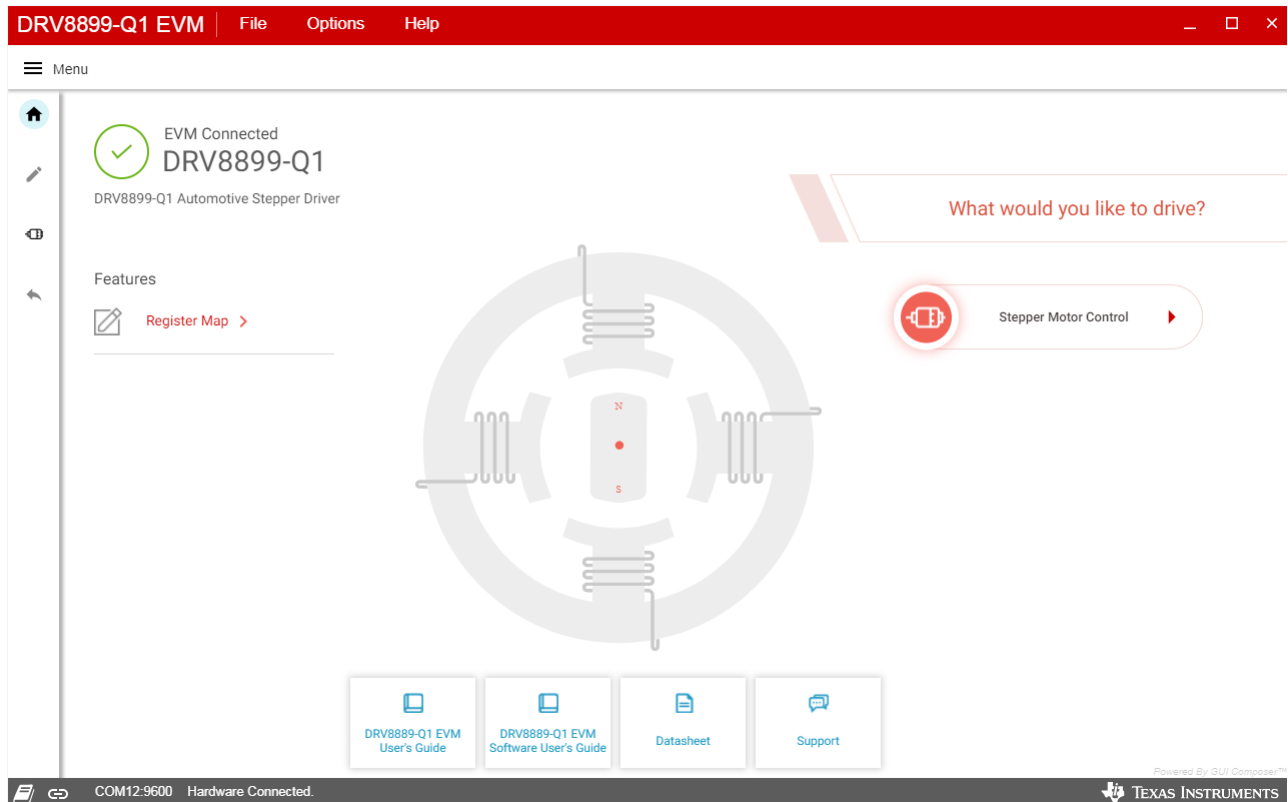

Figure 1. DRV8899-Q1 EVM GUI (Home Page)
- The application opens with launch page shown in Figure 1.
- Once the correct device is connected, the home page will show a message ‘Device Connected’ with a green checkmark as shown in Figure 1.